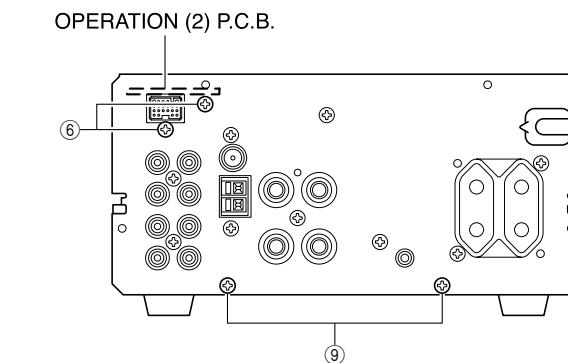
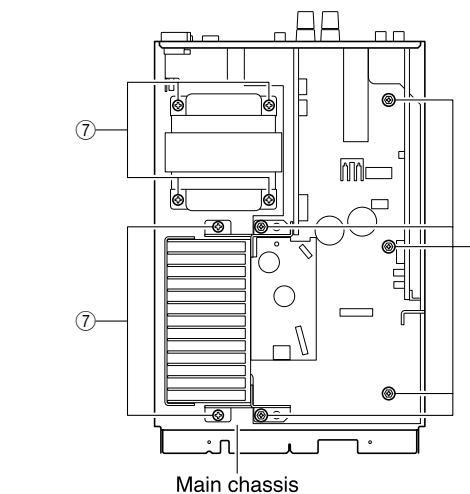
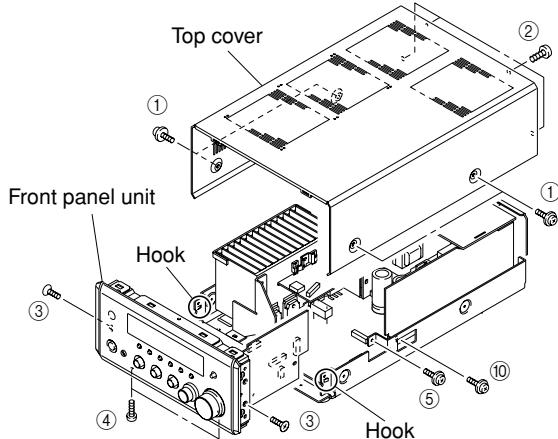

Fig. 3
Fig. 4
Fig. 1
- ③ MAIN (2) P.C.B.
- ④ AM / FM Tuner
- ⑤ OPERATION (2) P.C.B.
- ⑥ INPUT (1) P.C.B.
- ⑦ OPERATION (1) P.C.B.
- ⑧ INPUT (2) P.C.B.
- ⑨ MAIN (1) P.C.B.
- ⑩ MAIN (4) P.C.B.
- b. Remove 2 screws (⑥). (Fig. 3)
- c. Remove the OPERATION (2) P.C.B. which is connected directly to the lower P.C.B. with connections.
- d. Remove 6 screws (⑦). (Fig. 4)
- e. Remove 5 screws (⑧). (Fig. 4)
- f. Remove 2 screws (⑨). (Fig. 3)
- g. Remove 1 screw (⑩). (Fig. 1)
- h. Reinstall the OPERATION (2) P.C.B..
- i. Reinstall 2 screws (⑥). (Fig. 3)
- a. Remove 4 screws (①) and 4 screws (②). (Fig. 1)
- b. Lift the top cover at the rear and move it rearward slantingly. (Fig. 1)
- b. Remove 2 screws (③), 2 screws (④) and 1 screw (⑤). (Fig. 1)
- c. Release 2 hooks and remove the front panel unit by pulling it forward. (Fig. 1)